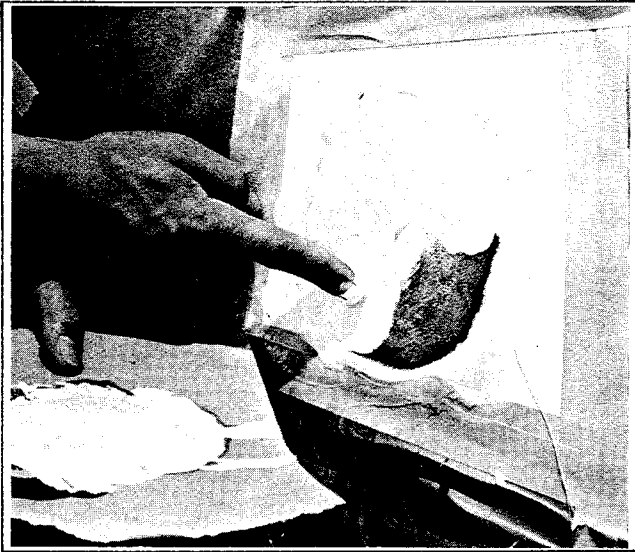

Figure 2-47. Working Gel Coat into Patch
11. Mix gel coat or filler coat with catalyst. Work Gel Coat into patch with fingers. See Figure 2-47. Filler Coat should be filled into patch with a putty knife.